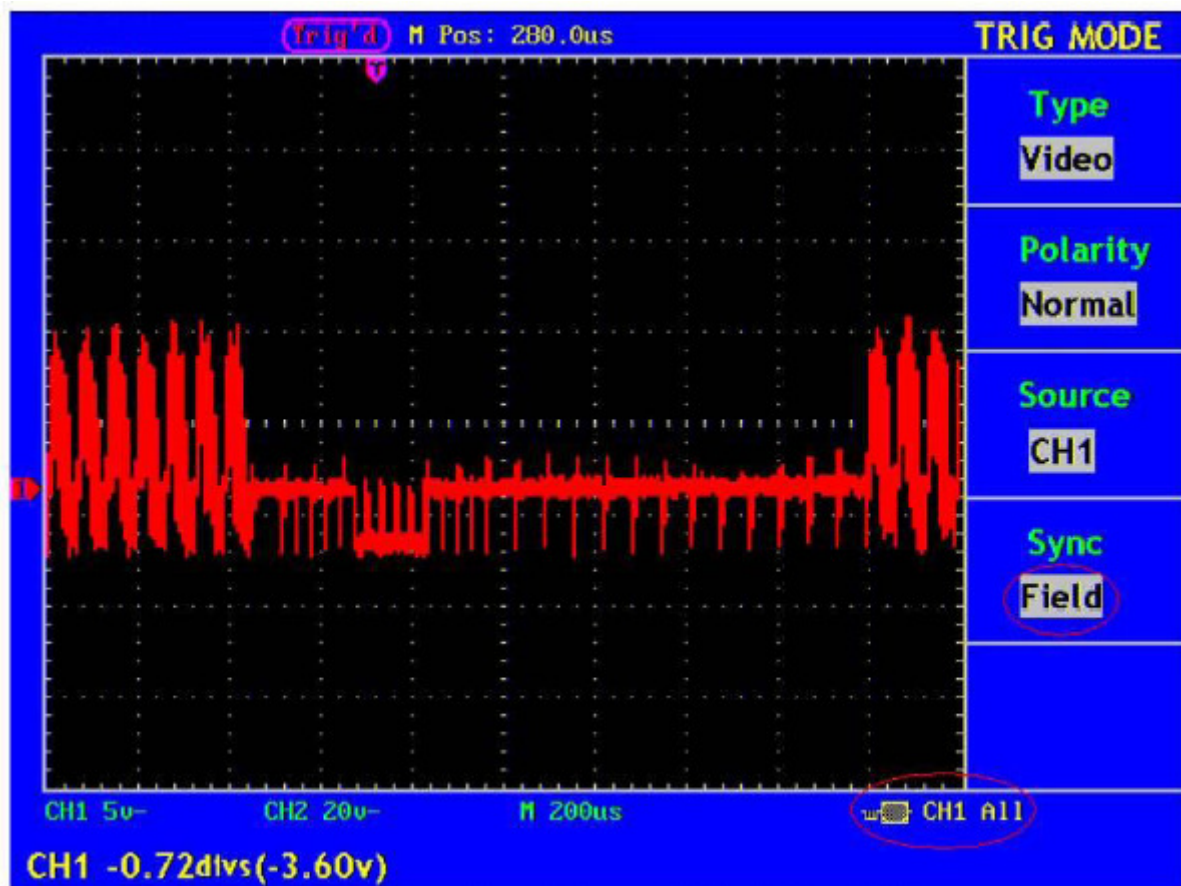

Fig. 34 Wave Form Triggered in the Video Field
5. Press the **F4** menu selection button and choose **Field** for Sync. The screen display is shown as Fig. 34.